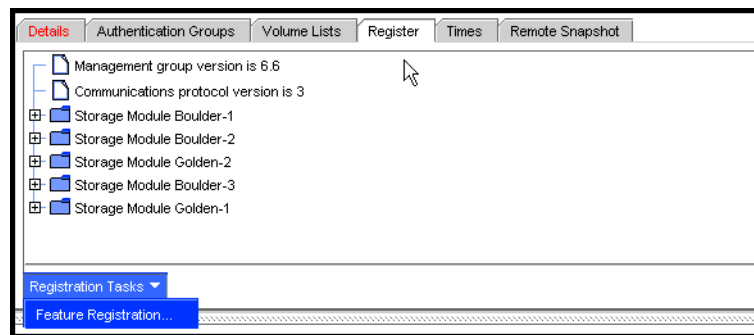

Figure 197. Registering Features
2. Select the Register tab, shown in Figure 197. The Register tab lists what, if any, licenses have been purchased. If you are evaluating features, the time remaining in the evaluation period is listed on the tab as well.